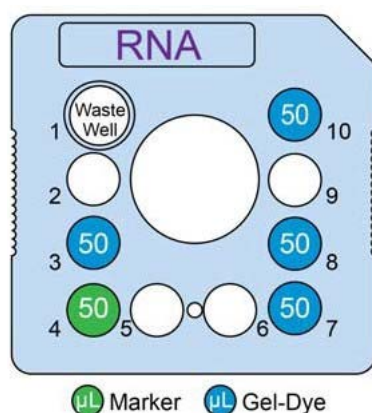
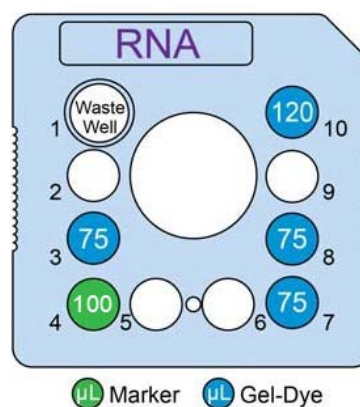

Figure 3. Low-throughput Chip Preparation
Figure 4. High-throughput Chip Preparation
- 5 Using a reverse pipetting technique, add **50 μ L** (Low-throughput) or **75 μ L** (High-throughput) **Gel-Dye solution** to chip wells **3, 7, 8, and 10** as shown in Figure 3 or Figure 4.
- 6 Add **50 μ L** (Low-throughput) or **100 μ L** (High-throughput) **RNA Marker** (green cap ●) to chip well 4 as shown in Figure 3 or Figure 4.